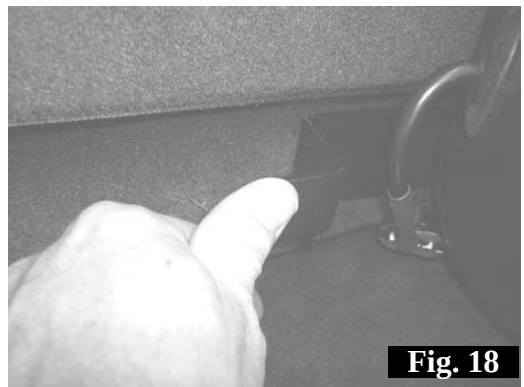

Fig. 18
30. To remove the subwoofer press the tabs on each side of the mounting bracket while lifting up. Disconnect wiring. Fig. 18